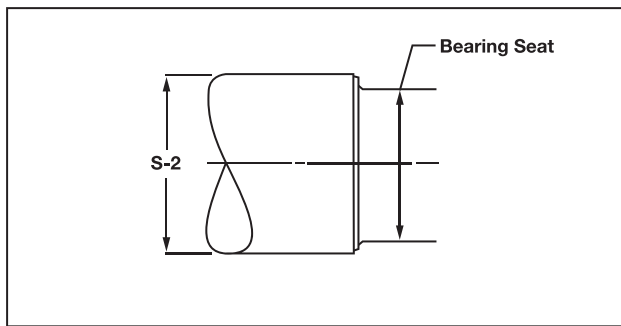

Figure 2 - Shaft Diameter
**Table 4 - Shaft Bearing Diameters For Cylindrical Bore Mount Plummer Blocks (See Figure 2)**
**Table 6 - Shaft Diameter, S-2 (See Figure 2)**